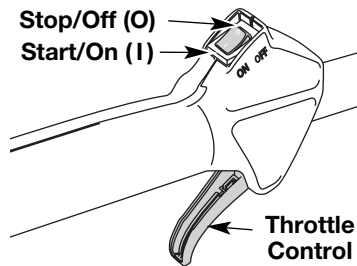

Fig. 3
2. Press and hold On/Off Stop Control in the **OFF (O)** position until engine comes to a complete stop (Fig. 3)